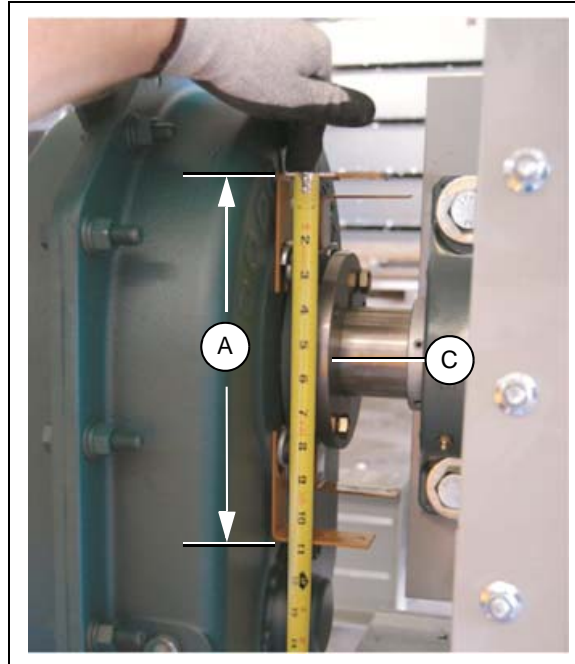

Figure 6AA
- Adjust the shaft guard clips so the distance between the clips (A) is the same as the height of the shield guard measurement taken in Step 1 on Page 29. Center distance on the center of the reducer shaft. Clips should line up horizontally and vertically across. Tighten bolts on clips. (See Figure 6AA.)